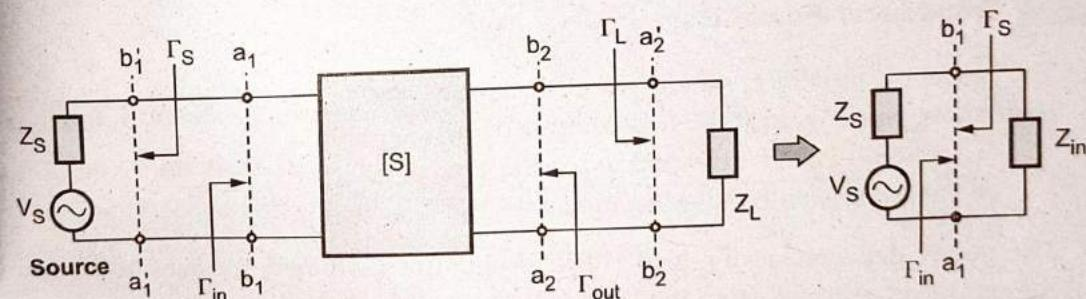

Fig. 5.6.2 Simplified diagram of single stage amplifier
- Assuming in terms of power flow relations, the two matching networks are included in the source and load impedances. The amplifier circuit is then reduced and shown in Fig. 5.6.2.